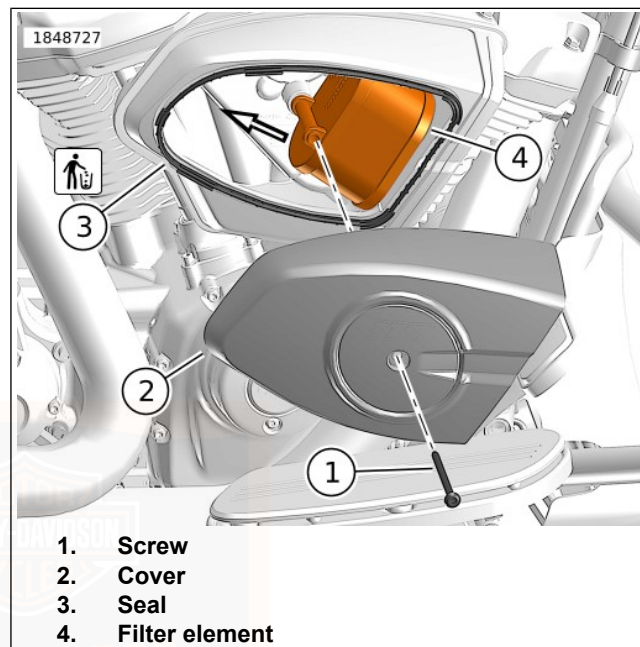

Figure 101. Air Filter Element
1. See Figure 101. Remove air cleaner cover.
- a. Remove screw (1).
- b. Remove cover (2).
- c. Move filter element (4) to the rear at an upward angle to disengage from snorkel.
- e. Remove seal (3). Inspect for damage or wear.
2. Replace seal (3) if damaged or worn.
3. See Figure 101. Install filter element.
- b. Rotate filter element (4) onto snorkel and press forward into position.
- c. Align seal (3) with groove in air filter housing. Install seal.
a. Install cover (2).
b. Install screw (1). Tighten.